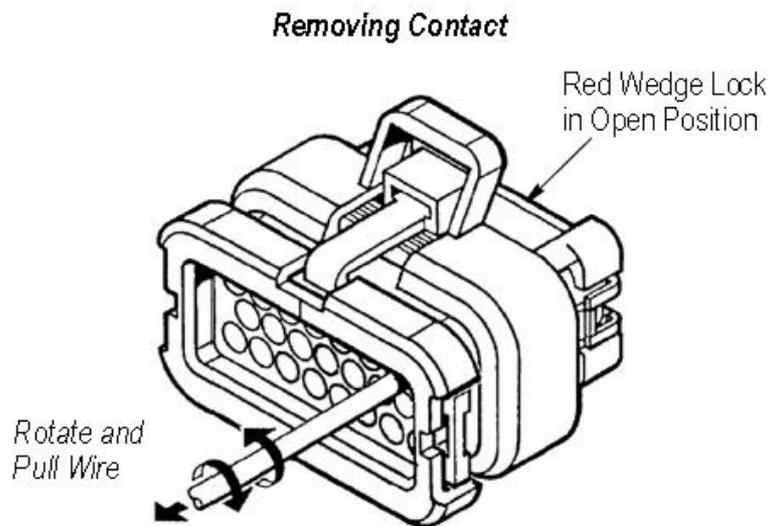

Figure 6
2. Gently pull the wire of the contact to be removed while rotating the wire (a quarter turn each direction) back and forth until the contact is removed from the housing. See Figure 6.